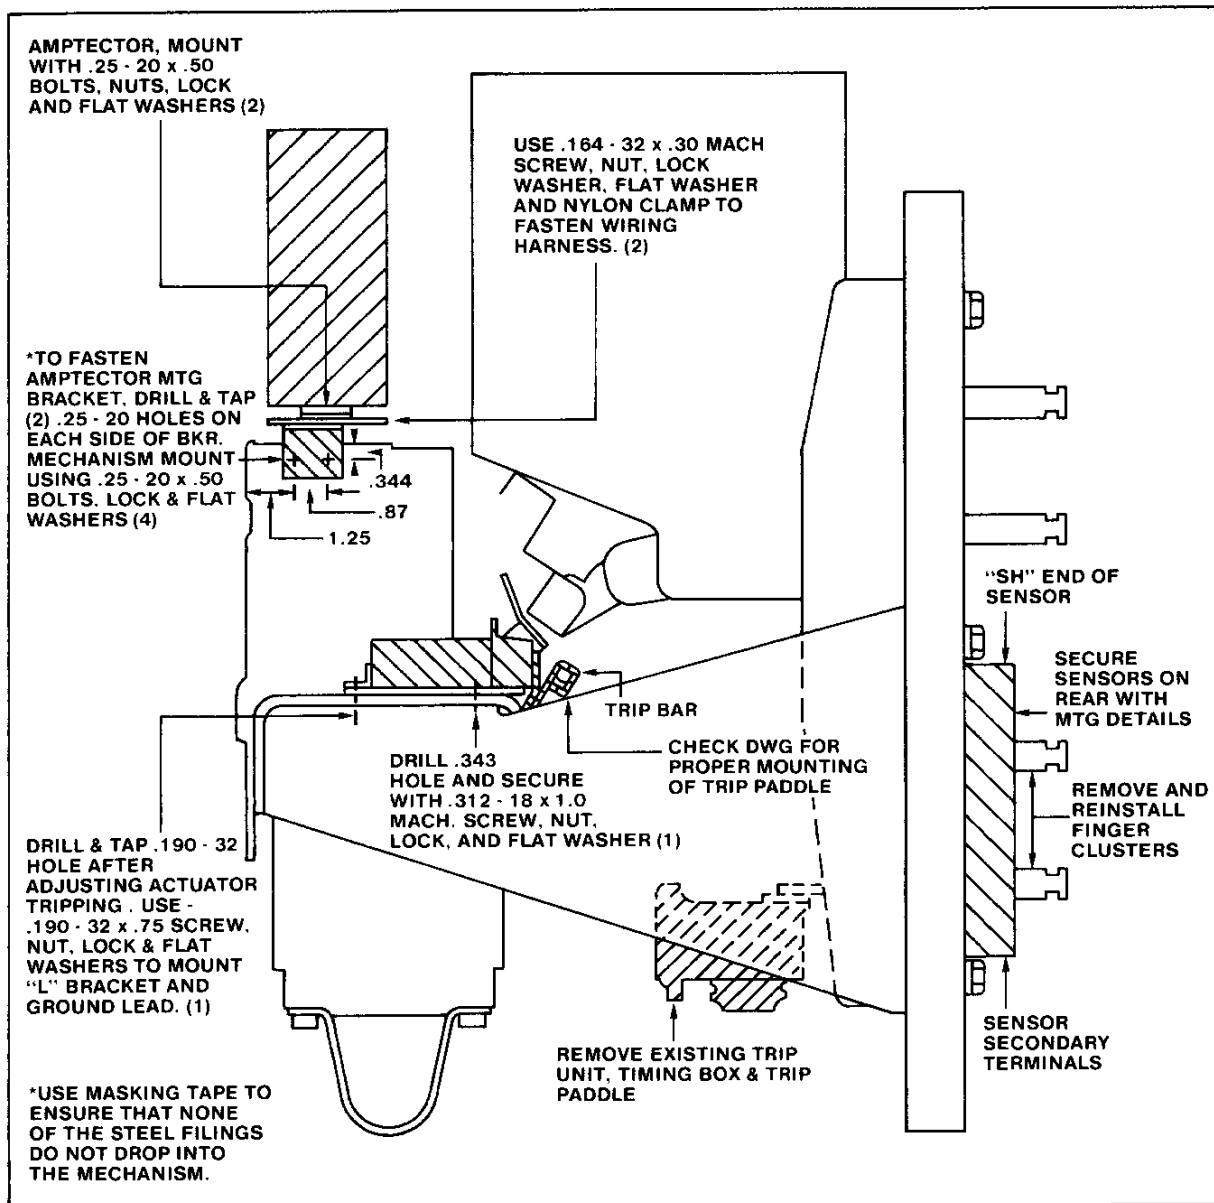

Fig. 25 Right Side View of DB-75 and DB-100
- Familiarize yourself with the right hand side view of the breaker, Fig. 25.
2. Drill and tap four (4) .25-20 holes, two (2) on each side .87" between centers, 1.25" from the front, and .344 from top of breaker mechanism side frame, see Figs. 25 and 30. It is recommended that .125 dia. holes be drilled first.
9. Wire the leads to the sensors and secure the wiring harness to the amptector mounting plate using the .203 dia. holes and .164-32 x .5 screw, nut, washers and nylon clamps, Fig. 25.